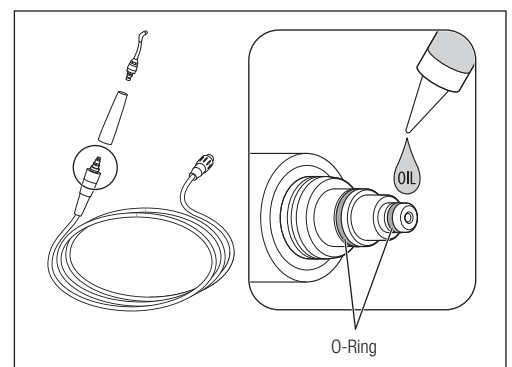

Fig. 44
- 4) Apply a drop of the supplied turbine oil and rub it in with your finger (Fig. 44).